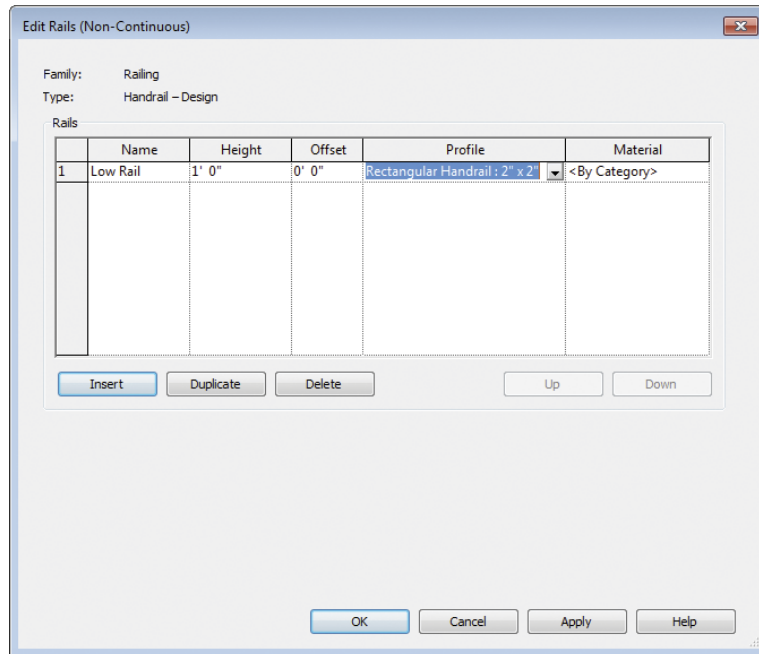

FIGURE 4.3 Edit Rails dialog box
6. Click Edit for the Rail Structure (Non-Continuous) parameter. In the resulting dialog box click Insert. This will add another rail to your railing type. In the Name field enter Low Rail. Set the Height to 1'-0" (300 mm) and change the Profile to Rectangular Handrail : 2" x 2" (Rectangular - 50 x 50 mm) (Figure 4.3). Close the dialog box by clicking OK to return to the Type Properties dialog.